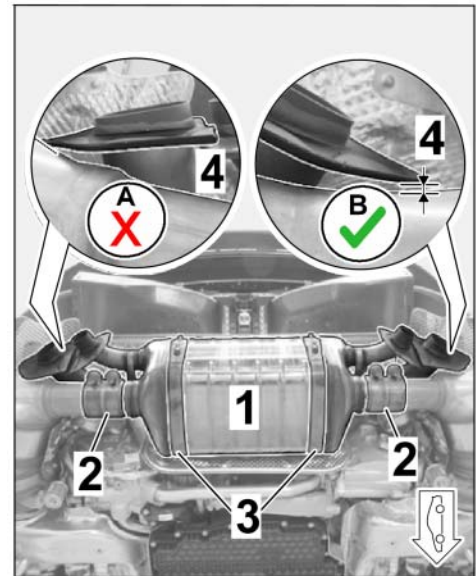

Figure 7
- 2.4.5 Position new silencer for sports exhaust system on the muffler holder and pre-install hand-tight with new restraining straps (2 pc(s)) (⇒ *Figure 7*).
- 2.4.6 Check whether the protective plate is touching the catalytic converter (⇒ *Figure 7-Magnifiers*).
- If YES (⇒ *Figure 7-A*):
Correct the position of the silencer or bend the cover away if necessary so that there is a gap of at least 3–5 mm (⇒ *Figure 7-B*) between the plate and catalytic converter.
- If NO (⇒ *Figure 7-B*): continue with the next step.